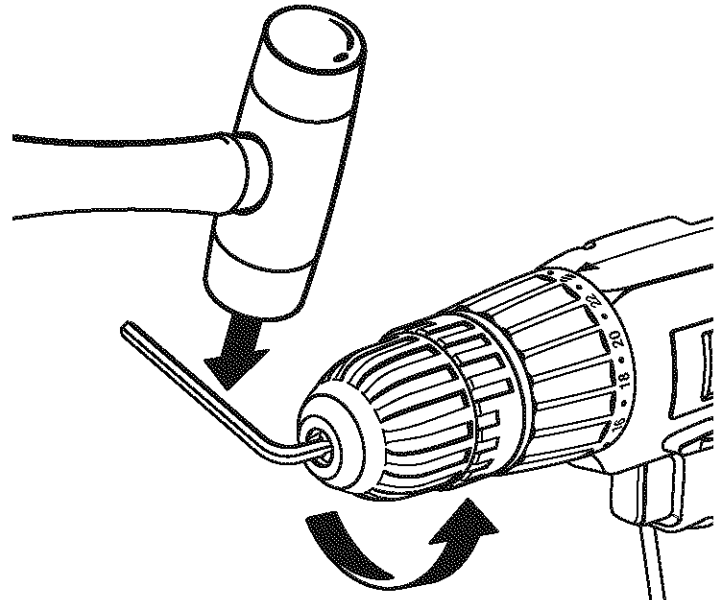

Fig. 14
- Insert hex key wrench in chuck and tighten chuck jaws securely. Tap sharply with a mallet in a counter-clockwise direction. This will loosen chuck on the spindle. It can now be unscrewed by hand. See Figure 14.